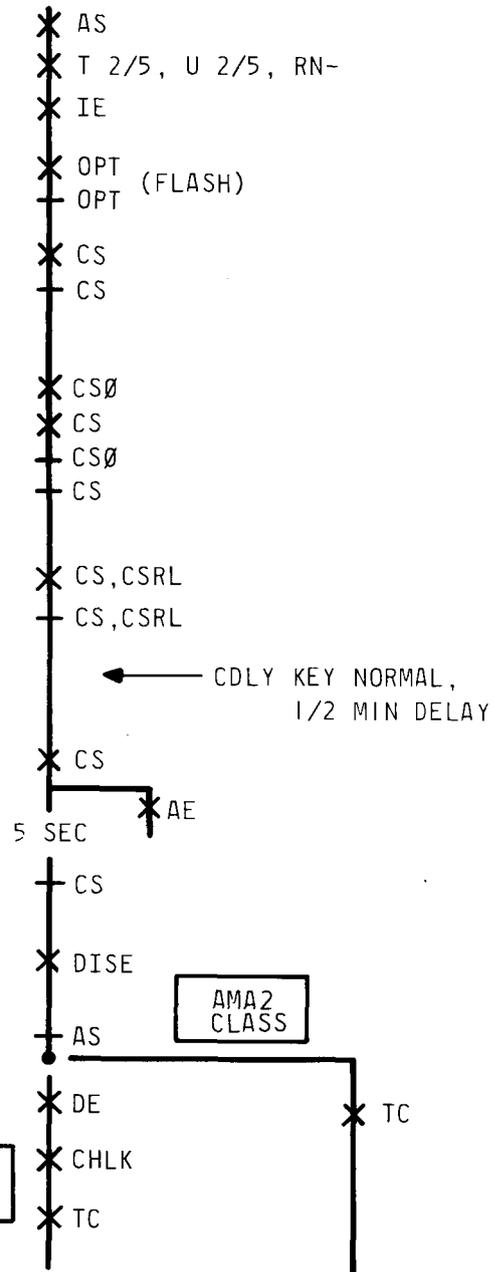

Fig. 1
2.06 When the EOD (end-of-digits) lamp lights the APTT will seize a marker and will proceed to test the trunk. Use the appropriate lamp sequence charts, Fig. 1 to 26, to determine that the test is being made properly. In general it will be necessary to watch the lamp sequence several